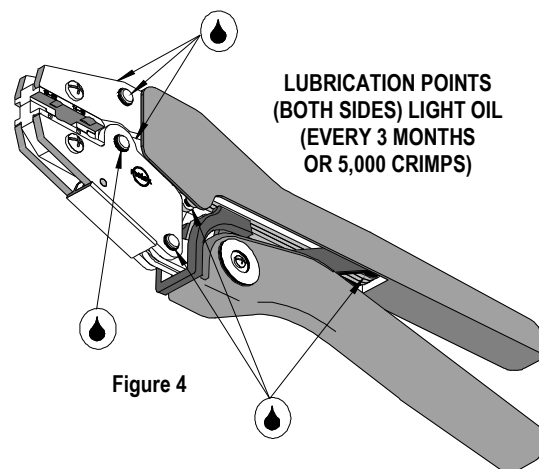

Figure 4
3. Make certain all pins; pivot points and bearing surfaces are protected with a thin coat of high quality machine oil. Do not oil excessively. This hand tool was engineered for durability, but like any fine piece of equipment, it needs cleaning and lubrication for a maximum service life of trouble-free crimping. Light oil, (such as 30 weight automotive oil) used at the oil points every 5,000 crimps or 3 months will significantly enhance the tool life and ensure a stable calibration. See Figure 4.